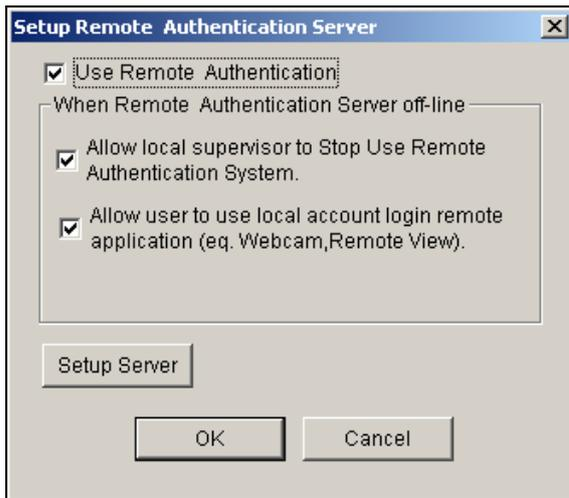

Figure 11-29
2. Click the **Setup Server** button in Figure 11-29. This dialog box appears.